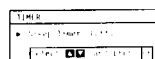

Fig. 34.
- 1 From the main menu, select "Timer" with  or  and press OK. The "Timer" menu appears. (See Fig. 34.)